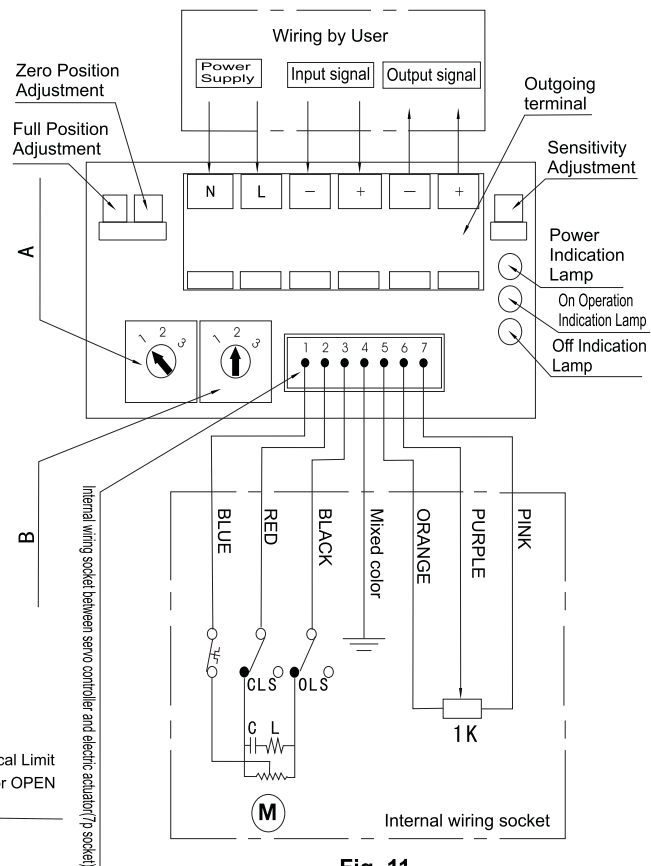

Fig. 11
- 3、 Connect the power and signals correctly according to the indications on the Servo Controller panel (Fig11). When the power indication lamp (green light) lights, it is possible to conduct all adjustment of servo controller. (Refer to the instructions of adjustment for Servo-controller on page 16)